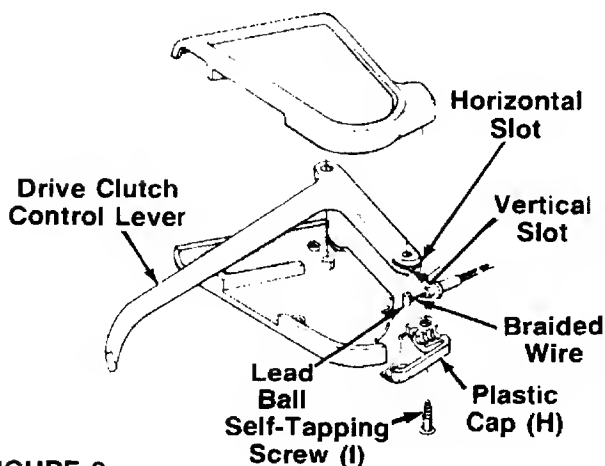

FIGURE 8.
b. Slide the braided wire around in the horizontal slot. See figure 8.
d. Secure the plastic cap (H) to the clutch control housing using the two countersunk self-tapping screws (I). See figure 8.